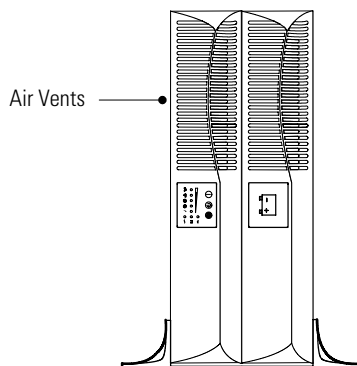
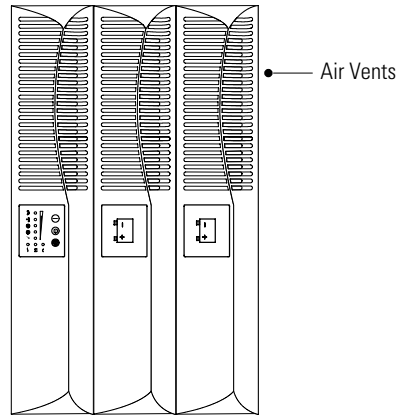

Figure 11. Pedestals with Two Cabinets
Figure 12. Tower Setup with Three Cabinets
9. Carefully position the cabinets upright with the air vents at the top (see Figure 11 or Figure 12).